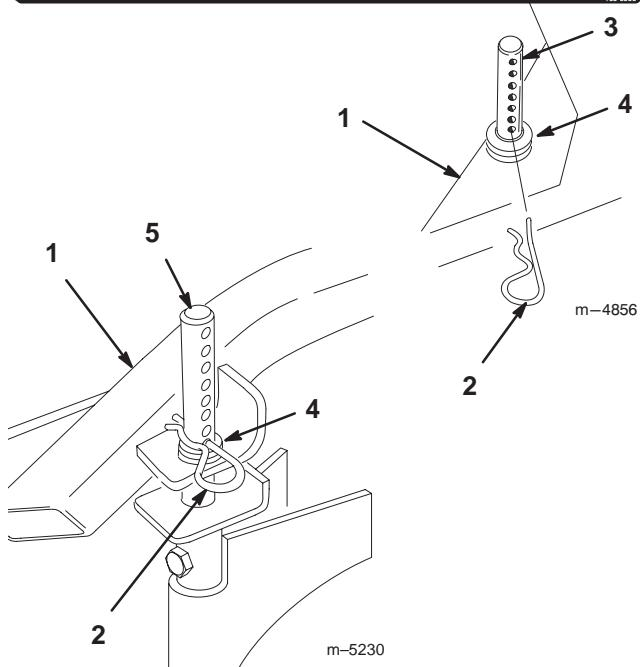

Figure 22
1. To adjust, remove hairpin cotter from height-of-cut post (Fig. 22).
2. Select hole in height-of-cut post corresponding to the height-of-cut desired (Fig. 22).
3. Lift on side of deck and remove hairpin cotter (Fig. 22).
4. Add or remove spacers if needed and then align holes and insert hairpin cotter (Fig. 22).